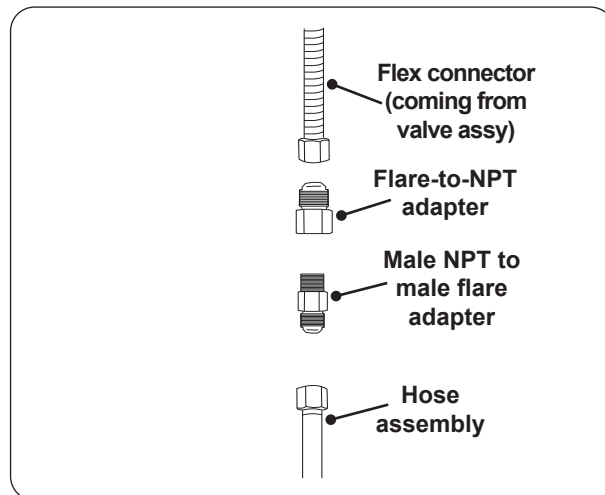

Fig. 25-1 Connecting flex to hose assy
1. Connect the L.P. regulator hose assembly (not included) to the flex connector that is coming off of the valve assembly (see Fig. 25-1).